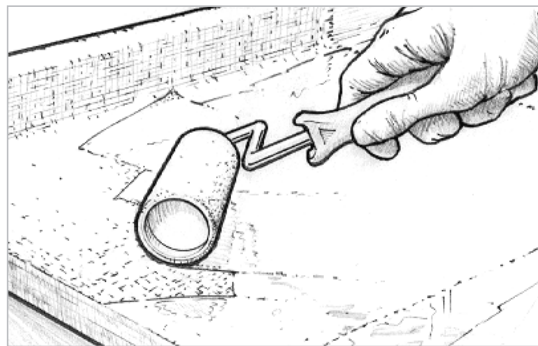

Figure 9-22 Apply the first coat of unthickened epoxy to fill the weave of the cloth before the wet-out coat becomes completely tack free.
9. Coat the surface to fill the weave before the wet-out becomes completely tack free (Figure 9-22). Follow the procedures for epoxy barrier coating under Section 9.4.6. It will take two or three coats to completely fill the weave of the cloth and to allow for a final sanding that will not affect the cloth.